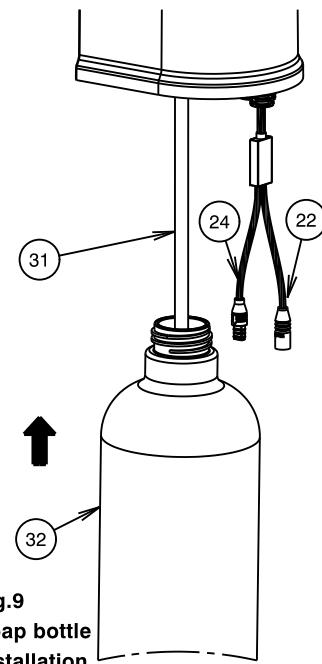

Fig.9
- iii)Mount the control unit (16) onto the screws (28).
5) Soap Bottle Installation (See Fig. 9)